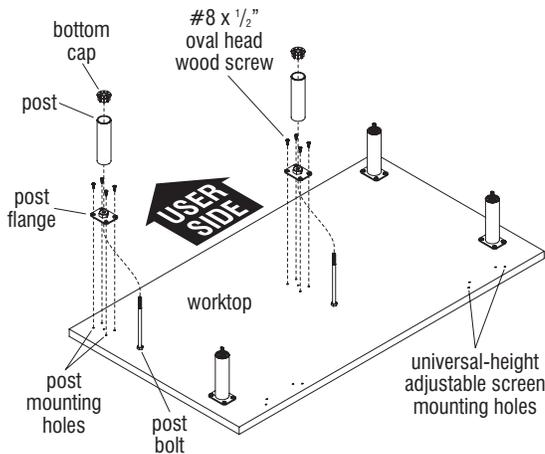

Figure 3
1. Carefully turn the worktop upside down onto a soft, protective surface (Figure 3).
2. Take a post bolt and post flange in hand, then press the threaded end of the post bolt through the recessed hex of the flange. Repeat this process for the remaining four bolts to four flanges (Figure 3 & Detail C).
3. At the underside of the worktop, locate the five sets of five pre-drilled holes, one set near each corner and one set in the center of the worktop. Position a post flange with post bolt aligned over one set of pre-drilled holes as illustrated. Using a hand screwdriver with #2 Phillips tip, secure the post flange to the worktop using four #8 x 1/2" wood screws. Take care to not secure too tight. Repeat this step to install the remaining flanges with bolts to the worktop (Figure 3 & Detail C).
4. Locate five posts and five bottom caps. Press a bottom cap onto one end of each post, then press a post with cap onto each of the five installed post flanges, so the threaded end of the bolts protrude through the bottom caps (Figure 3 & Detail C).